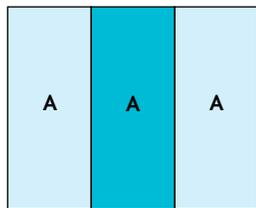
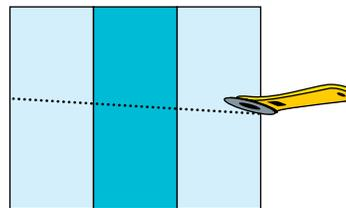
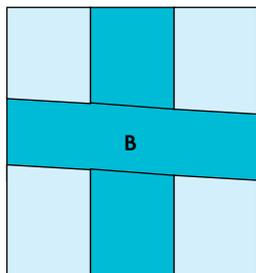

Fig. 1
Fig. 2
Fig. 3
**2** Select a light, a medium and a dark fabric. Cut 2 A's from one fabric, and cut 1 A and 1 B from a second fabric. Join the A's into a band as shown in Fig. 1. Make a slightly angled horizontal cut across the middle of the band (Fig. 2). Join the band segments to either side of the B (Fig. 3).